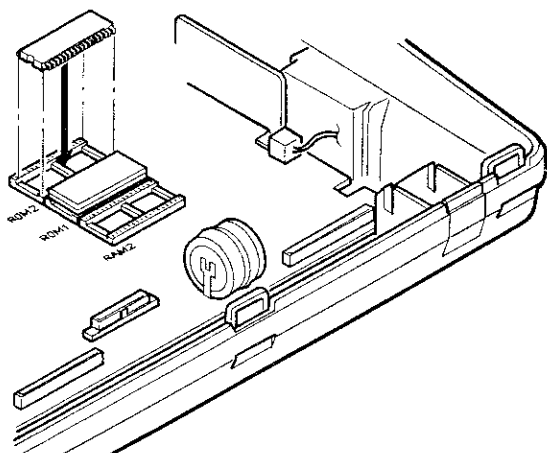

Fig. 1
2) Insert the control ROM in the IC socket ROM2 on the main PWB (Fig. 1).